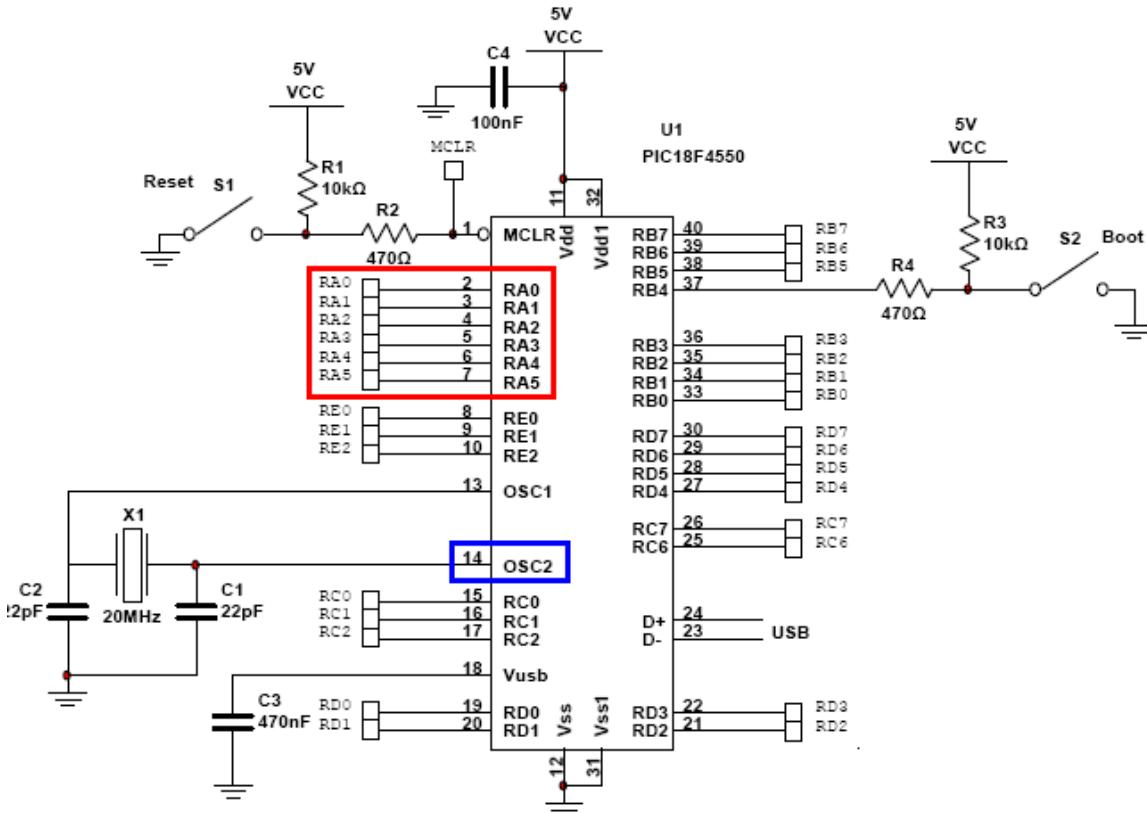

Figure 3.3 - General purpose I/O pins available on the micro-controller board
- On the **micro-controller board** (see Figure 3.3), the available Port B pins are RB7-5 and RB3-0. Pin 37 (RB4) is connected to an active low switch, so RB4 is not available.
- On the **micro-controller board** (see Figure 3.3), the available Port C pins are RC7-6 and RC2-0. Pin 24 (RC5) and Pin 23 (RC4) are used for USB downloading of hex file into the micro-controller, so RC5-4 are not available.
- On the **micro-controller board** (see Figure 3.3), the Port D pins RD7-0 are all available.
- On the **micro-controller board** (see Figure 3.3), the available Port E pins are RE2-0. Pin 1 (RE3) is used as the active low Master Clear (/MCLR) input, so RE3 is not available.